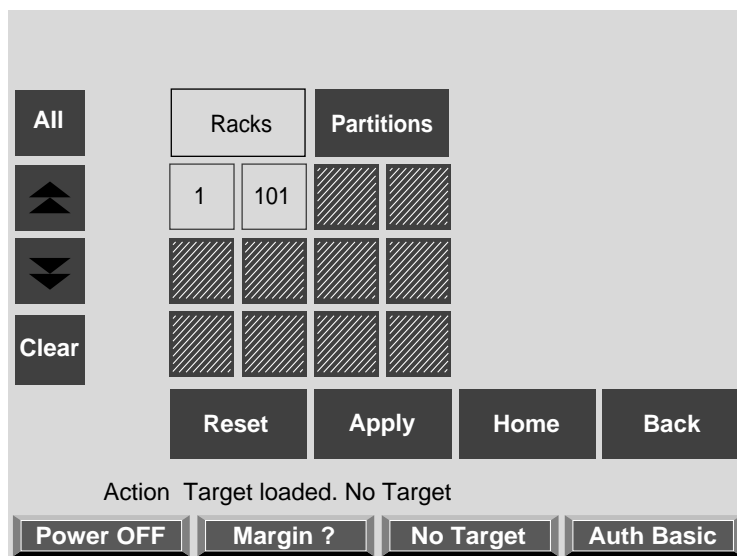

Figure 4-14 Target Select Window
4. The Target Select window appears, as shown in Figure 4-14.